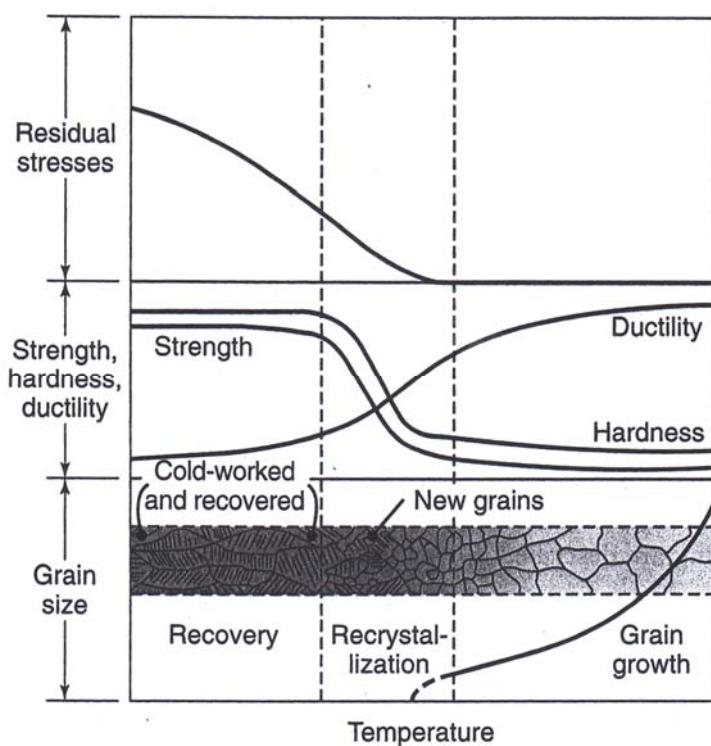

Figure Q4[a]
- Q4. [a]** Plastic deformation at room temperature causes the deformation of grains and grain boundaries, which affect the strength and ductility. To reverse the effect, heating to a specific temperature for a specific period or annealing need to be performed. Discuss the THREE events i.e. recovery, recrystallization and grain growth during annealing as illustrated in Figure Q4[a].